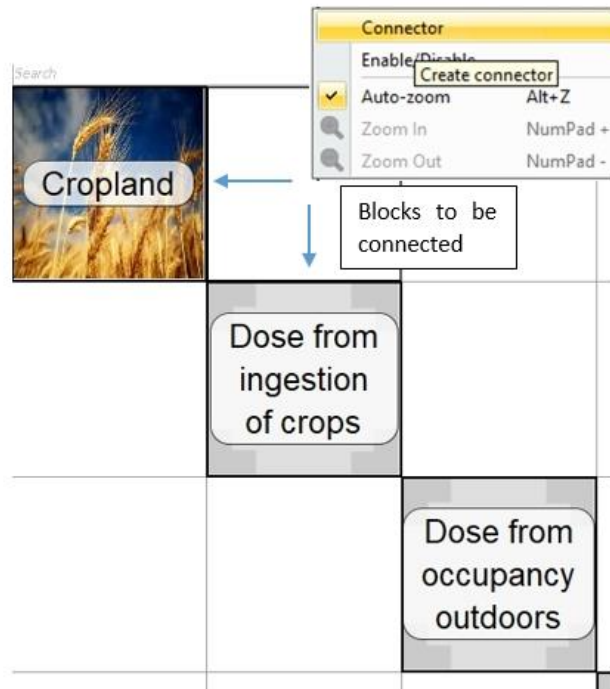

FIG 9. Connecting modules using “connector” blocks for data exchanges.
1. To create a new “connector” block, right-click on the off-diagonal element of the matrix window projected (horizontally, vertically) on diagonal blocks that need to be connected, and chose ‘Connector’ from the pop-up menu (FIG 9).